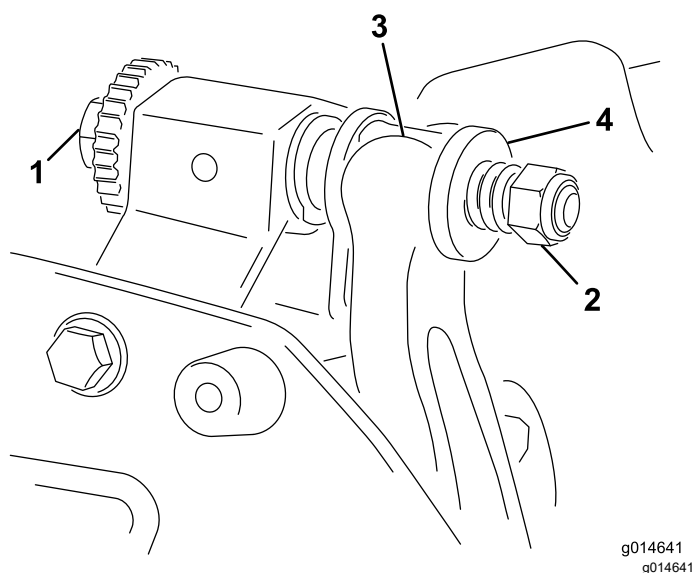

Figure 19
1. Turn the bedbar adjusting-screw counterclockwise to back the bedknife away from the reel (Figure 19).
2. Back out the spring-tension nut until the washer is no longer tensioned against the bedbar (Figure 19).
1. Install the bedbar/bedknife assembly, positioning the mounting ears between the washers and the bedbar-adjusting screw (Figure 19).